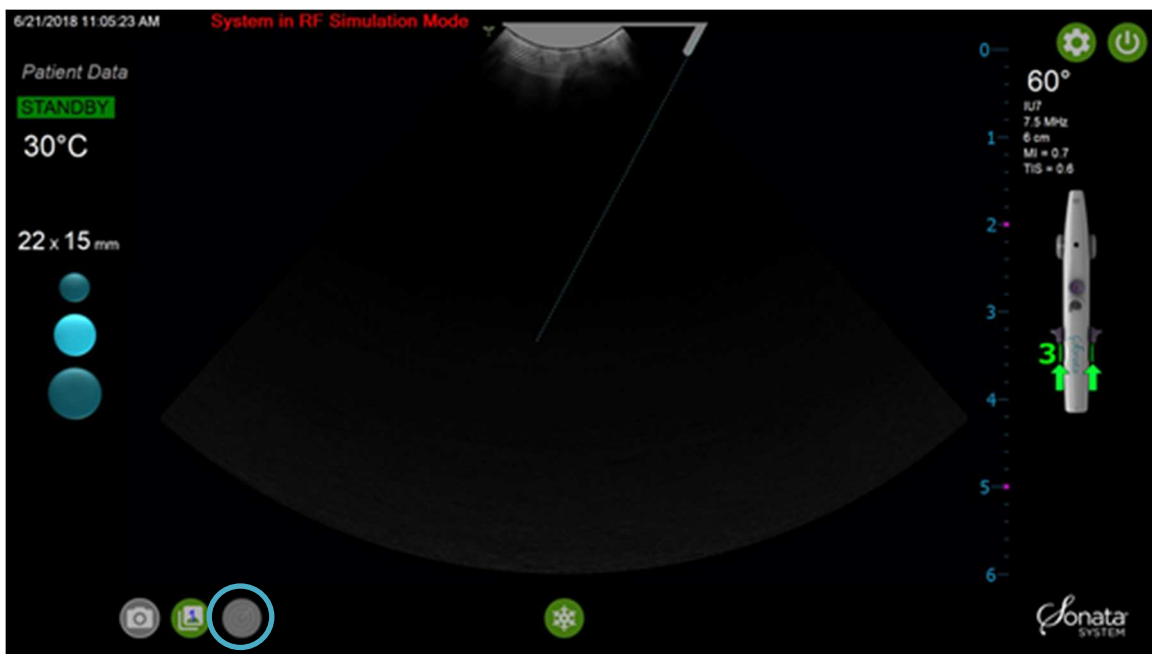

Figure 6-7. After “Hide SMART Guide” is chosen, the SMART Guide is removed for 5 seconds.
- Click the “Hide SMART Guide” icon  from the ultrasound display screen, see Figure 6-7~~Figure 6-7~~. The SMART Guide graphic will be removed from the image for five (5) seconds, see Figure 6-7~~Figure 6-7~~.